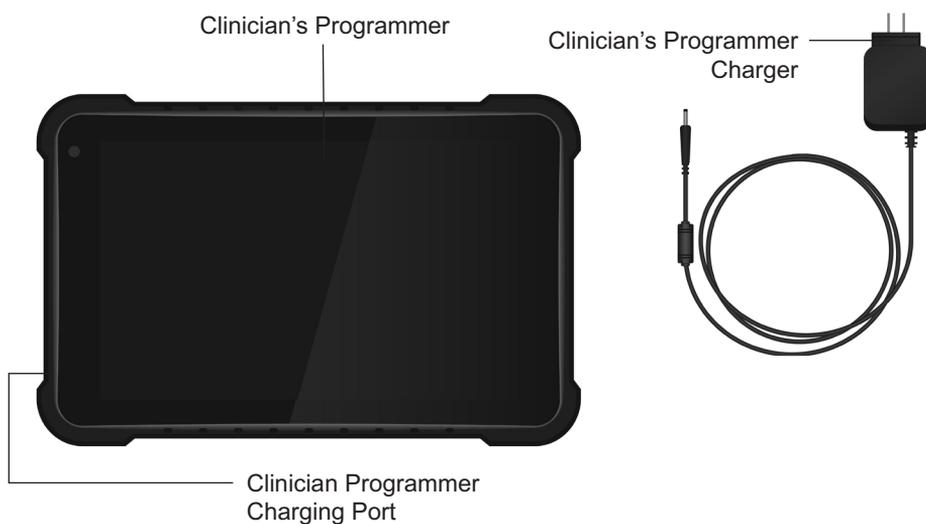

Figure 7-1: The Clinician's Programmer set-up
1. Insert the Clinician Programmer Charger into the Clinician Programmer charging port and plug the charger into a power socket. See Figure 7-1.